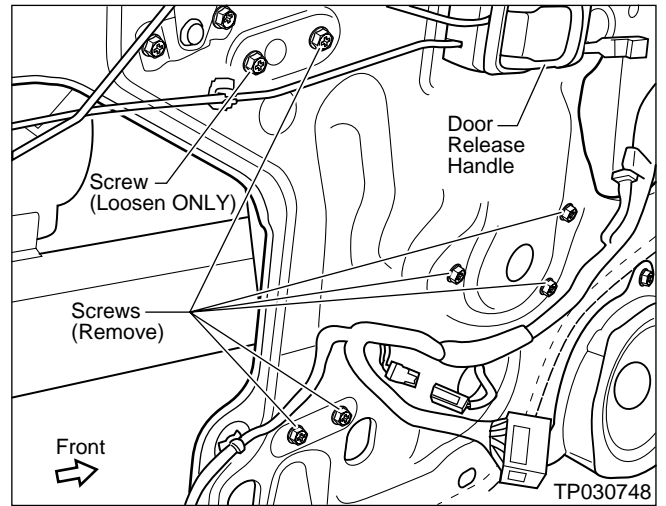

Figure 10
13. Loosen one screw and remove six screws that secure the Window Regulator Assembly (see Figure 10).